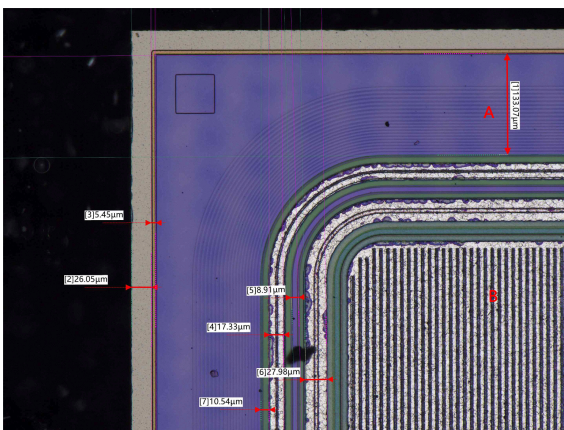

Fig. Q4b
- (2) Fig.Q4b is a top view optical image of part of a SiC MOSFET, what are the structures marked by red letters A and B.